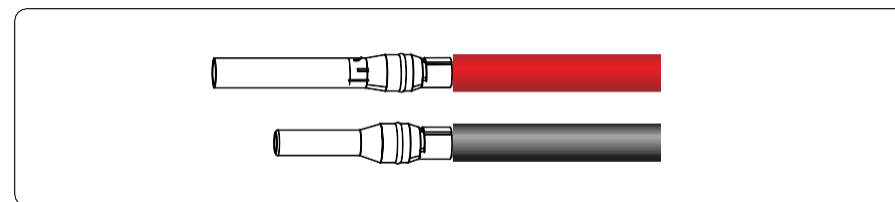

Figure 5.9 Crimping a metal connector
**Step 2** Insert the exposed areas of the positive and negative power cables into the metal terminals of the positive and negative connectors respectively and crimp them using a crimping tool, as shown in Figure 5.9.